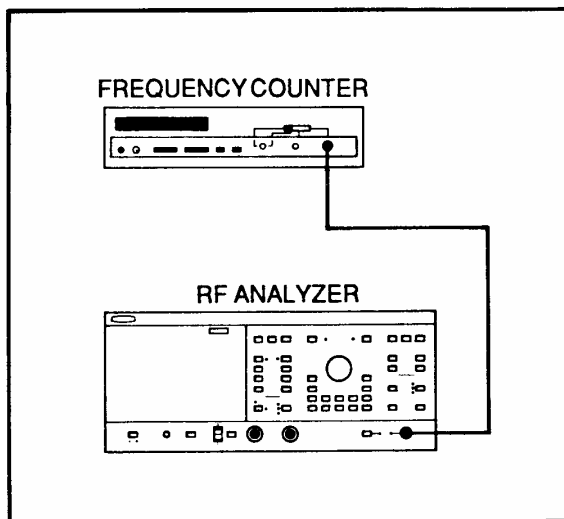

Figure 6-5. FM Coil Calibration Test Setup
1. Set up the test equipment as shown in Figure 6-5.